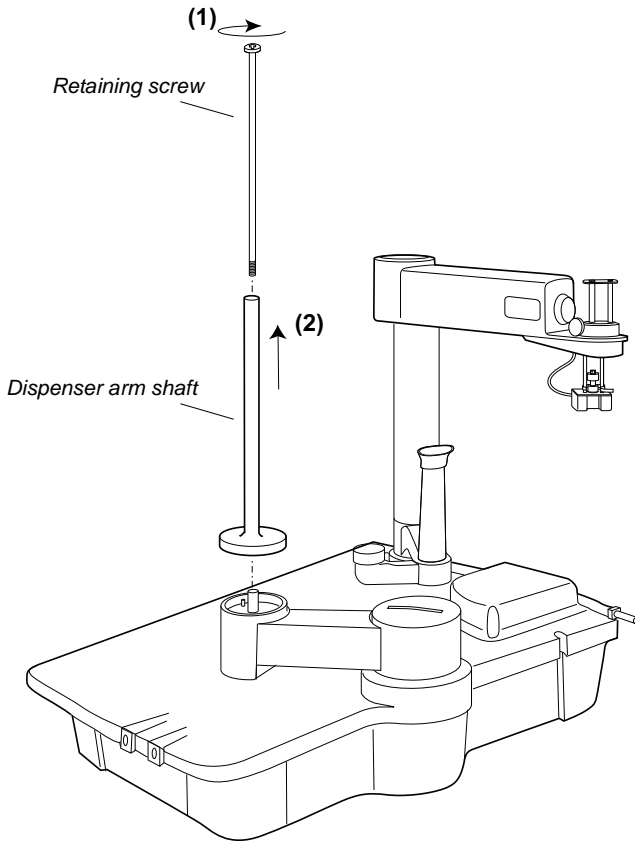

Figure 2-26. *Removing the dispenser arm shaft*
- 2 Loosen the finger-tight connector and pull out the capillary (1).
- 3 Loosen the knurled screw (2).
- 4 Remove the dispenser arm (3).
- 5 Push the waste arm to the right (4).
- 6 Lift up and remove the rack (5).
- 7 Remove the dispenser arm shaft as shown in Figure 2-26.